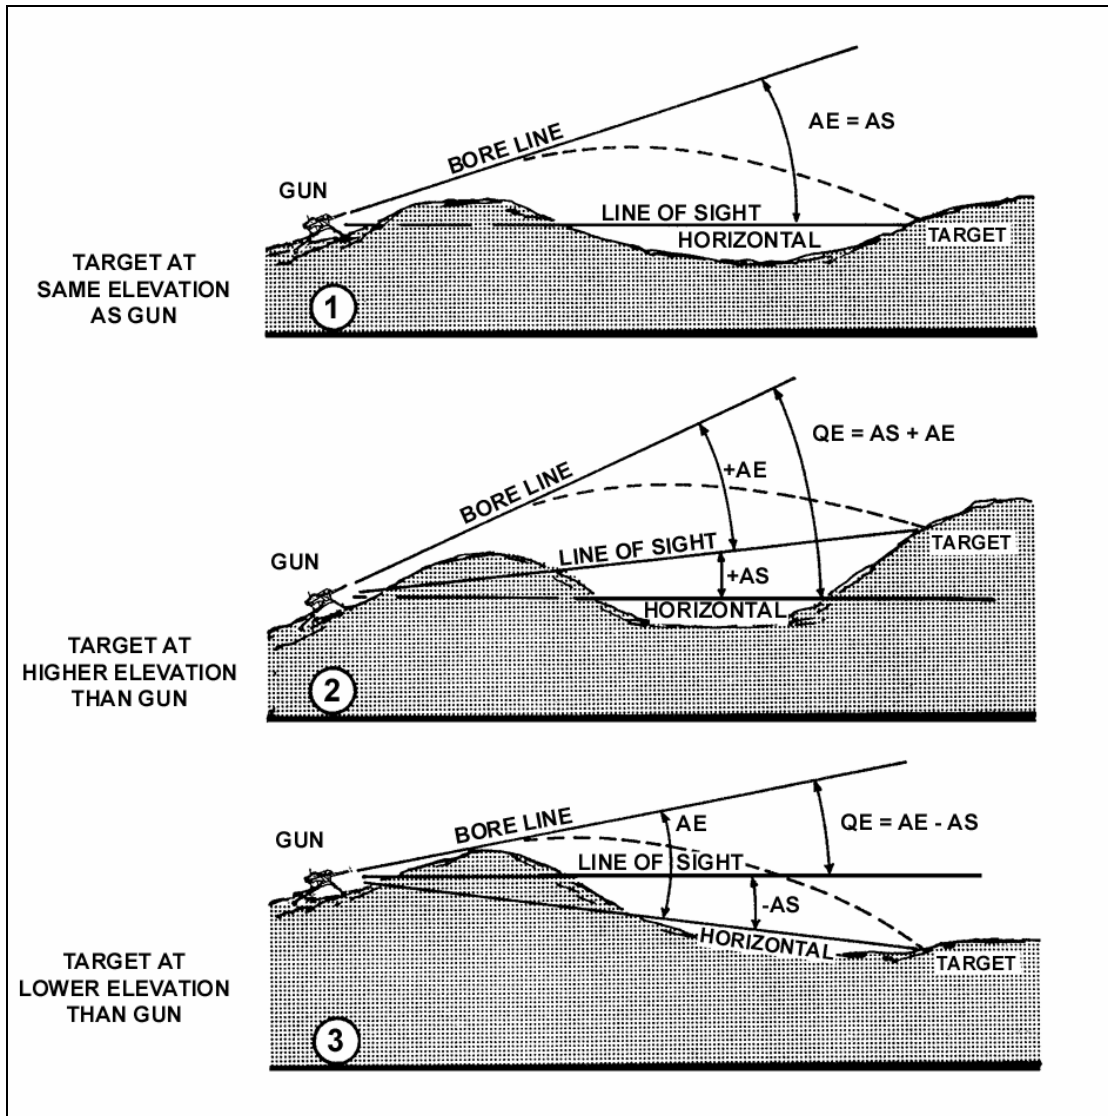

Figure 5-24. Angle of elevation, angle of sight, and quadrant elevation.
(a) The AE is the vertical angle between the bore line and the line of sight, when the gun and target are at the same elevation (Figure 5-24). The AE is always a positive (plus) and increases as the range increases. The AE for 40-mm ammunition, for each 100 meters of range up to 2,700 meters, is contained in Appendix F, Firing Table. For example, to hit a target at a range of 1,000 meters with M430 HEDP ammunition, the MK 19 must have an AE of +131.9 mils to the line of sight. Is a discussion on leveling the tripod necessary or can the gunner "eye-ball" it?
(b) When the MK 19 and target are not at the same elevation, an additional angle must be taken into consideration. The angle of sight (AS) is the vertical angle formed by the line of sight and a horizontal line from the base of the gun. When the target is at a higher elevation than the gun, the AS is positive (plus) (Figure 5-24). When the target is lower than the gun, the AS is negative (minus).
(c) The angle of quadrant elevation (QE) is formed between the bore line and the horizontal line through the base of the gun (Figure 5-24). The QE is positive (plus) whenever the gun is aimed above the horizontal, and negative (minus) whenever the gun is aimed